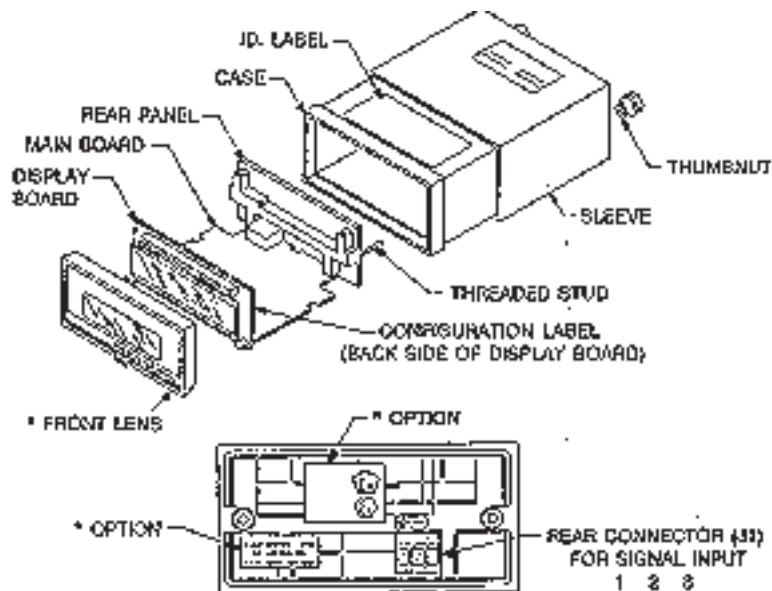

Figure 3-1 Exploded View (includes rear panel)
- Figure 3-1** Exploded View
2. Slide the sleeve off the case (see Figure 3-1 Exploded View).
The signal input connections for all meters are made at connector J1 as follows (see Figure 3-1):